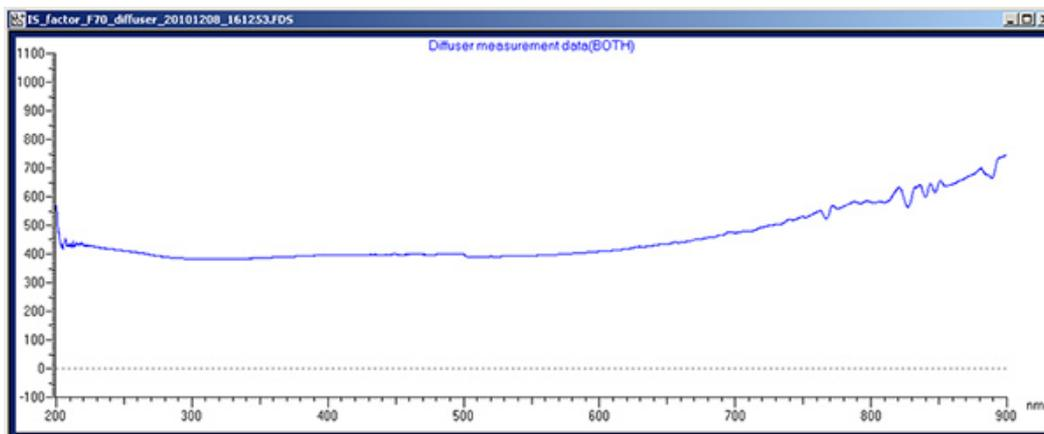

Figure 1. Click here to view larger figure.
4. After measurement, the file will be saved in the "Correct" folder of FL Solutions. **Figure 1** is an example of the Diffuser Measurement data.